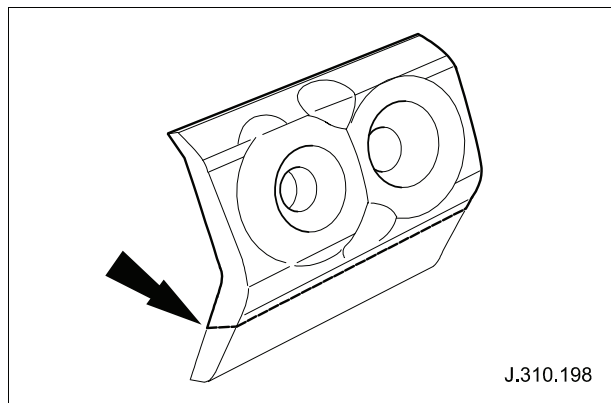

Fig. 3
- 14 Using a suitable sharp bladed tool and straight edge, cut and remove portion of the new seal (see Fig. 3).